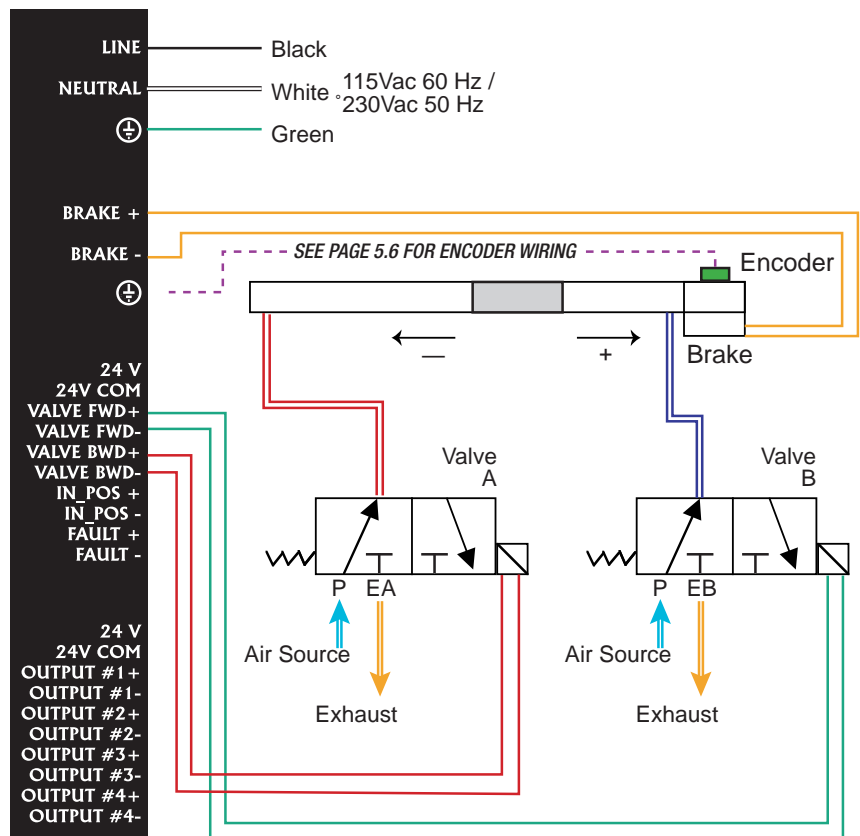
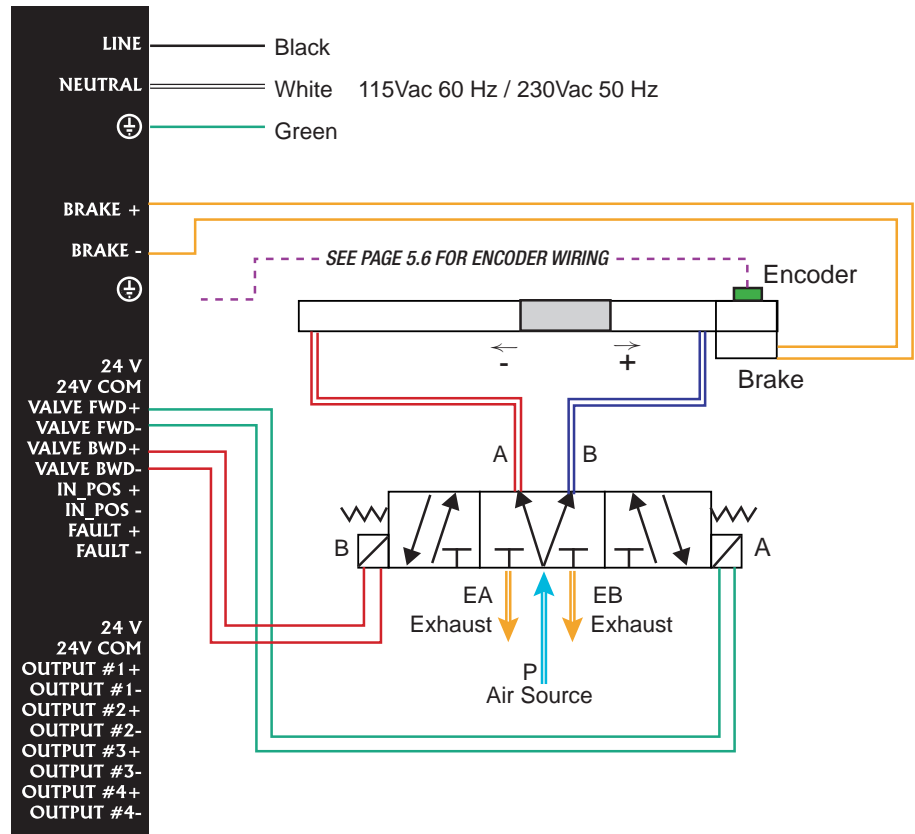

Figure 5.1
Fig. 5.3
The following three types of valve configurations (Figures 5.1 to, 5.3) can be used to operate the PrecisionAire system. **However, the solenoid coil response time will affect the in-position settling time of the system. A solenoid response time of less than 20 ms is required.**
- A. Using two 2-position 3-way normally open valves with 24Vdc solenoids: Connection is shown in Fig. 5.1. When using this valve configuration Tol-O-Matic recommends **"De-Energized"** for the "In Position Valves" selection in the Set-up portion of the PAS controller software. (see Figure 6.1, pg. 6-4)
C. Using a 3-position 4-way, spring centered valve with the center configured with pressure (P) to cylinder ports A and B, with dual 24Vdc solenoids: Connection is shown in Fig. 5.3. Select valve "In Position Valve" (default is "De-Energized") (see Figure 6.1, pg. 6-4)
For horizontal applications, a two valve (See Figures 5.1 and 5.2) system is preferred for optimal performance. However, a single valve (See figure 5.3) can work for short stroke applications. When plumbing the PrecisionAire actuator, keep the valve(s) as close to the actuator as possible. If operating with a single valve or if the valves cannot be mounted close to the actuator, use air lines of the same length to optimize the system performance.
For vertical applications, a dual-pressure system (similar to figure 5.1 or 5.2) must be used. Using two separate external pressure regulators or a valve with a sub-base mounted pressure regulator will be required to achieve a dual pressure system. Vertical applications should always be mounted with the brake end at the top. This will minimize the chance of any belt slack at the brake. Typically the downward motion will require less than half the pressure of the upward motion.